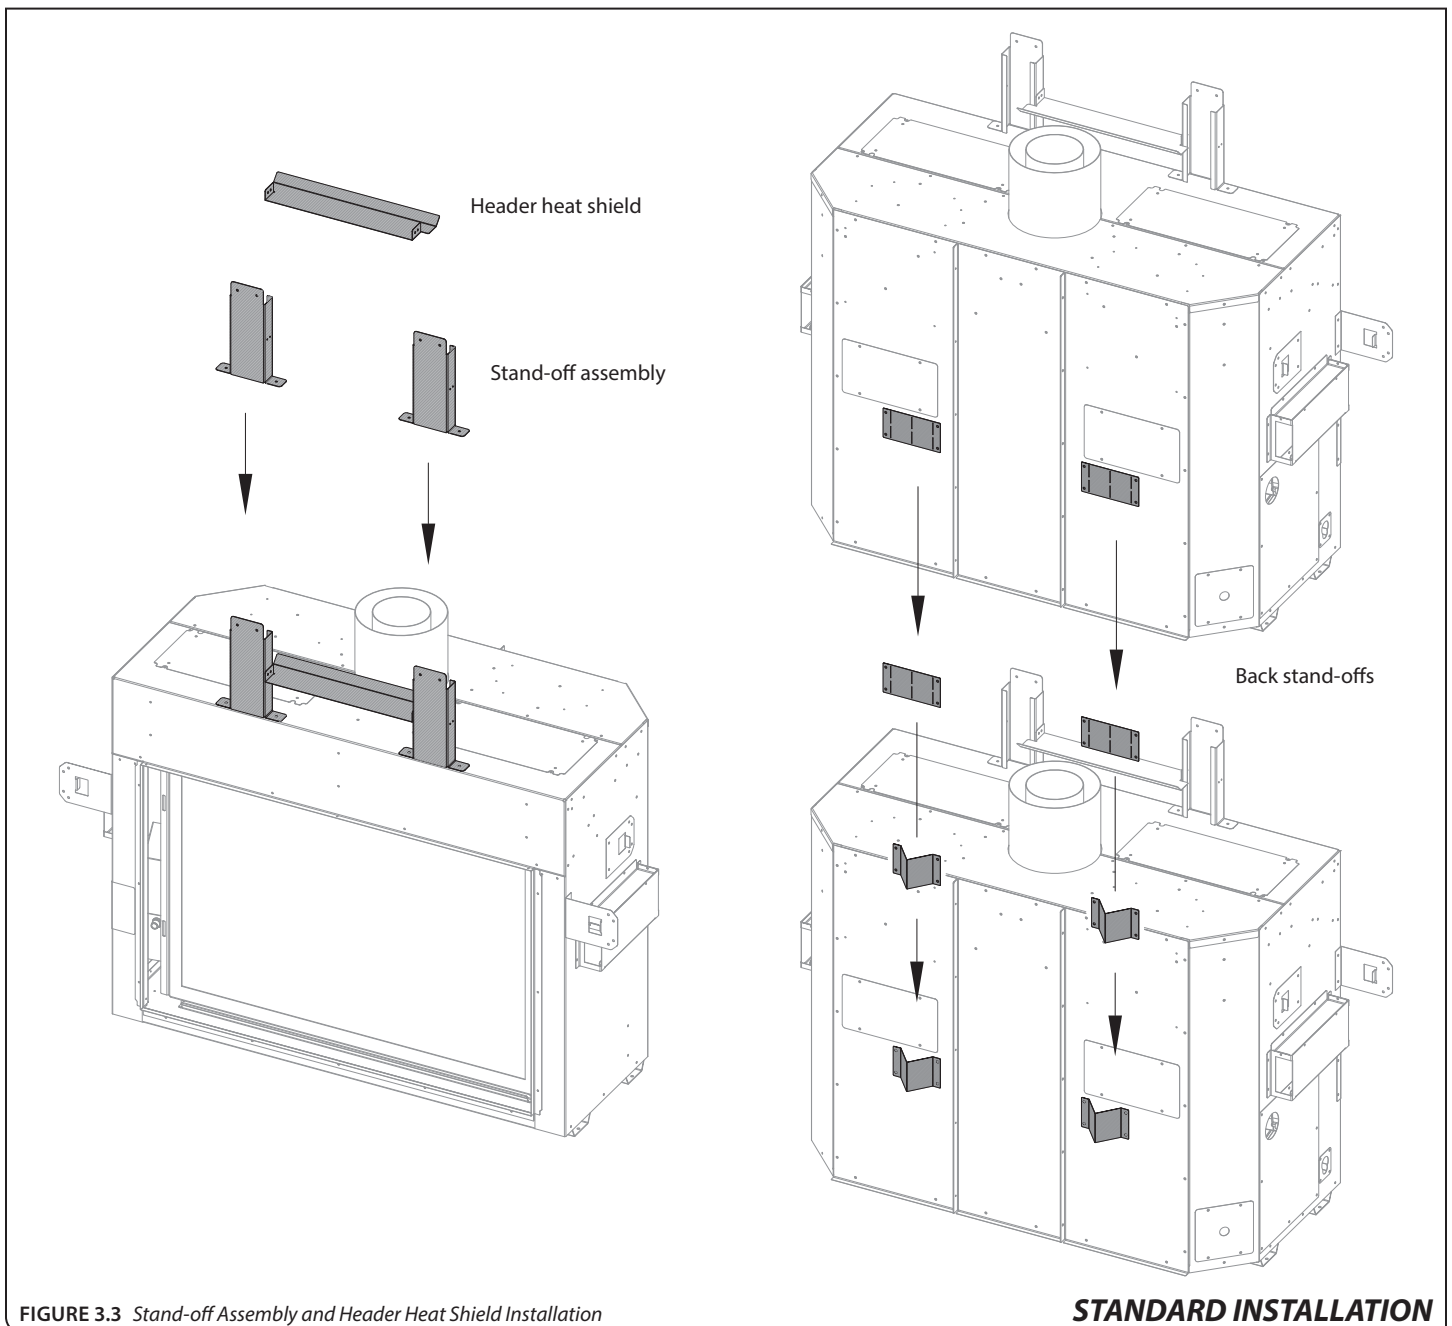

FIGURE 3.3 Stand-off Assembly and Header Heat Shield Installation
**WARNING:** The stand-off assembly and header heat shield **MUST BE INSTALLED** in order to maintain clearance requirements for standard installation. These clearances must be maintained. See FIGURE 3.3 below for installation.